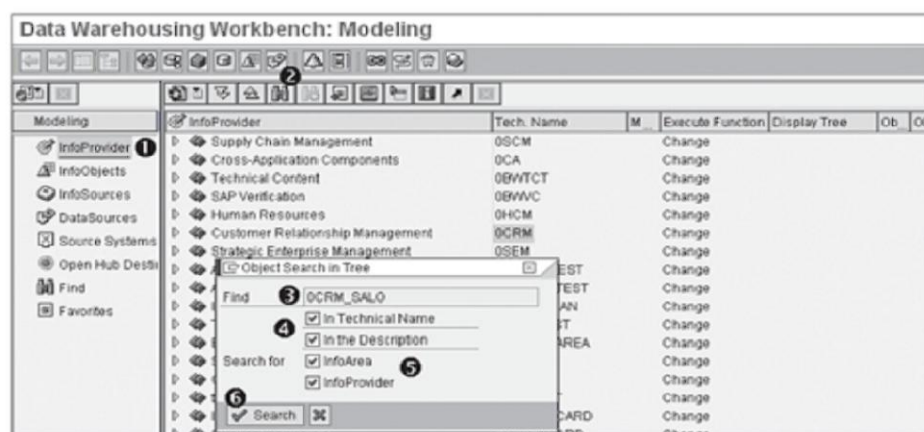

Figure 2.16 Searching Objects in DWW
1. Click on the type of object you want to search, as shown in ❶ of Figure 2.16. In the example here, we are searching for InfoCube 0CRM_SALO, so we've selected InfoProvider under Modeling.
2. Click on the Search icon, as shown in ❷ of Figure 2.16. SAP NetWeaver BW displays the Object Search in Tree box, as shown in Figure 2.16.
3. Type the technical name or description of the object you want to search for in the Find box (❸), and indicate which object you're searching for (❹). If you want, restrict your search to an InfoProvider or InfoArea (❺).
4. Click on Search (❻).
1. Click on Find under the Modeling section of the navigator (Figure 2.16). SAP NetWeaver BW displays a General Search in the Data Warehousing Workbench pop-up box, as shown in Figure 2.17.